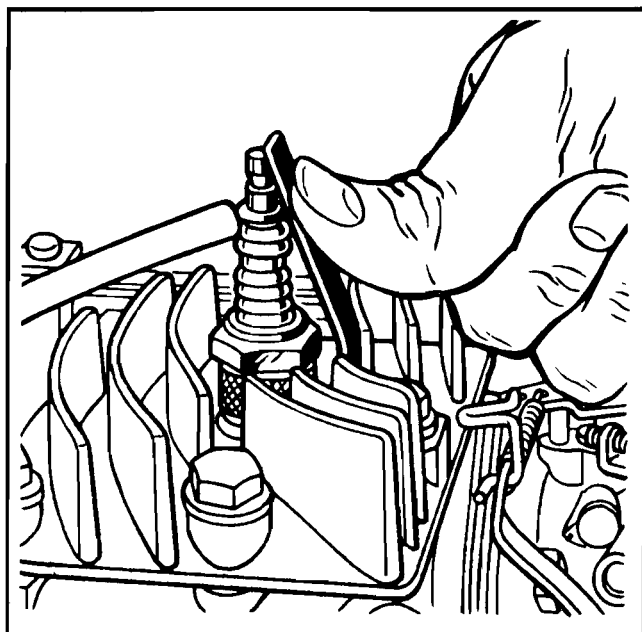

Figure No. 7—Shorting Procedure
1. On most models the engine can be stopped by firmly pressing the shorting clip against the top of the spark plug. There is no danger of the operator's being shocked if he keeps the clip firmly in place. (See Figure No. 7.)